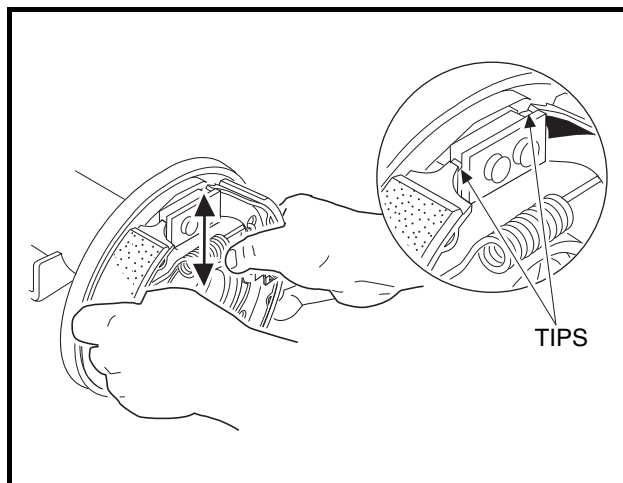

**Figure 6-15** Install Leading Shoe
4. While maintaining spring attachment on both shoes, position tips of leading shoe in the mounting slots and then push shoe into place. Hold shoe in position and install retaining clip (**Figure 6-15, Page 6-7**).